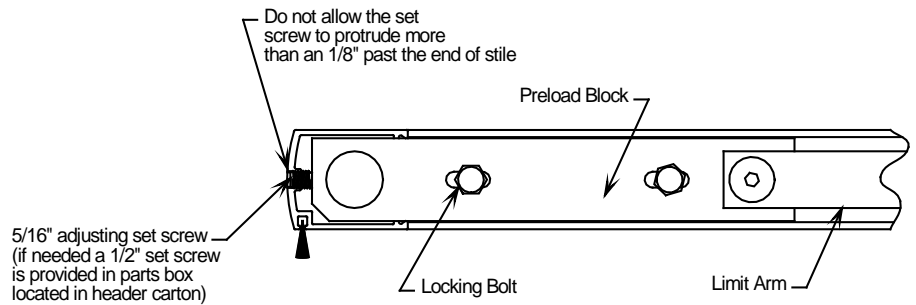

Figure 26
2. Loosen the two locking bolts on the block inside the top rail of the door. (See Figure 26)